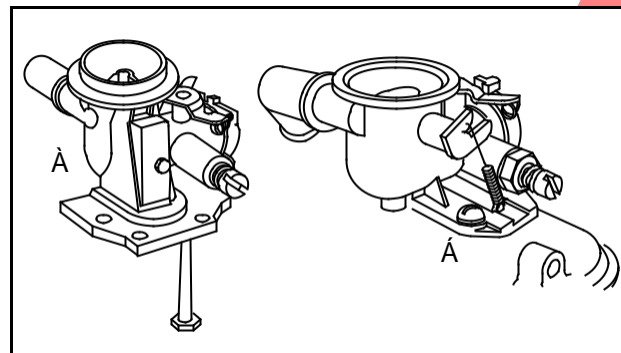

Fig. 141 - TYPES OF VACU-JET CARBURETORS
There are two (2) basic types of Vacu-Jet carburetors used on above series engines. They are A Automatic Choke, and A CHOKE-A-MATIC, Fig. 141.